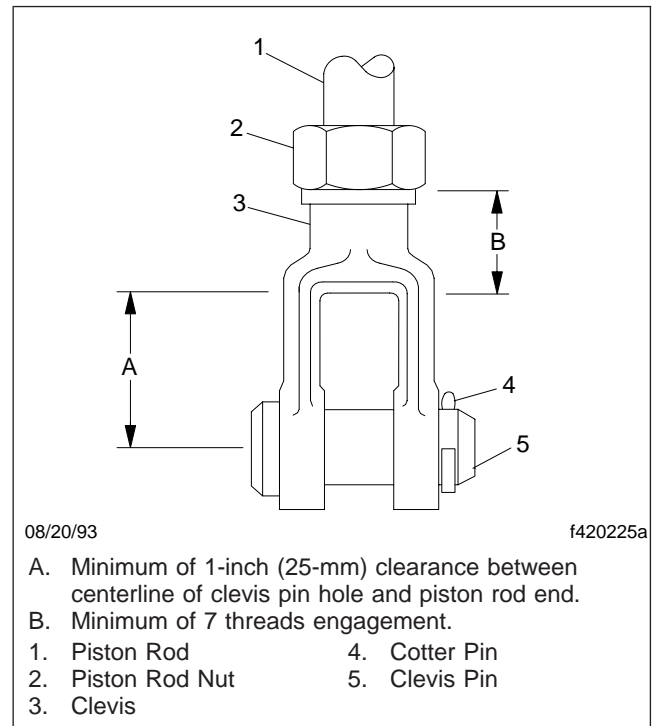

Fig. 3, Piston Rod Engagement With the Clevis
3. Observe the piston rod engagement with the clevis. Engagement of at least 7 threads is required; there should be 1-inch (25-mm) clearance from the centerline of the clevis pin hole to the end of the piston rod. See **Fig. 3**. Adjust if needed.